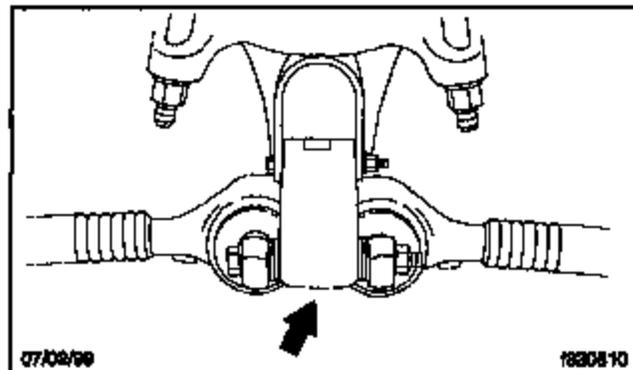

Fig. 2, Jack the Vehicle Here
9. Jack up the center of the left suspension spring (at the center bearing, between the tandem [Fig. 2]) and support with the jack stands at the frame. Make sure that all of the weight has been relieved from the axle clamp group and that there is sufficient clearance to remove the upper axle clamp.